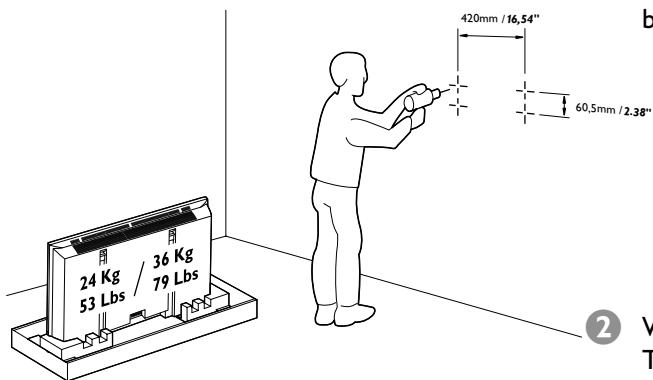

fig. 3
- 3 Remove the Wall Bracket, and using a 13/64" wood drill bit, drill the four holes. (fig. 3)